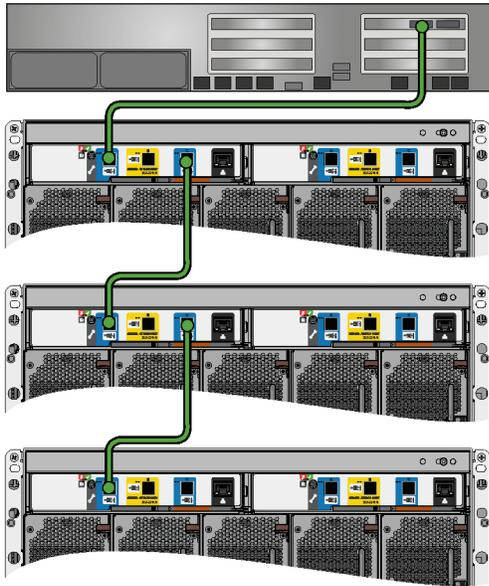
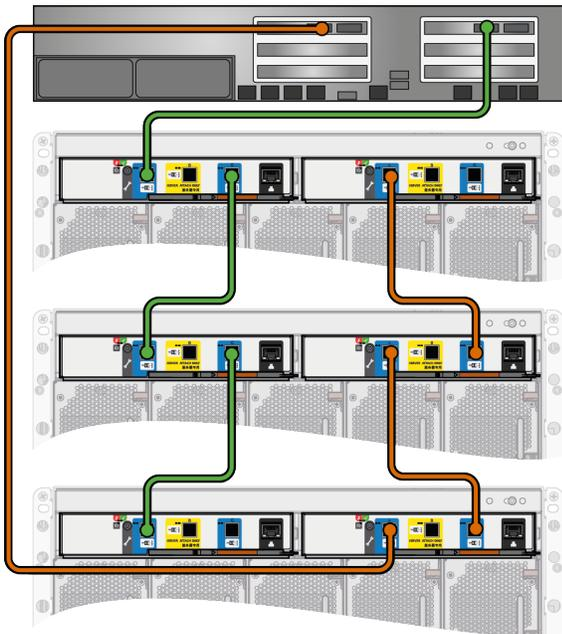
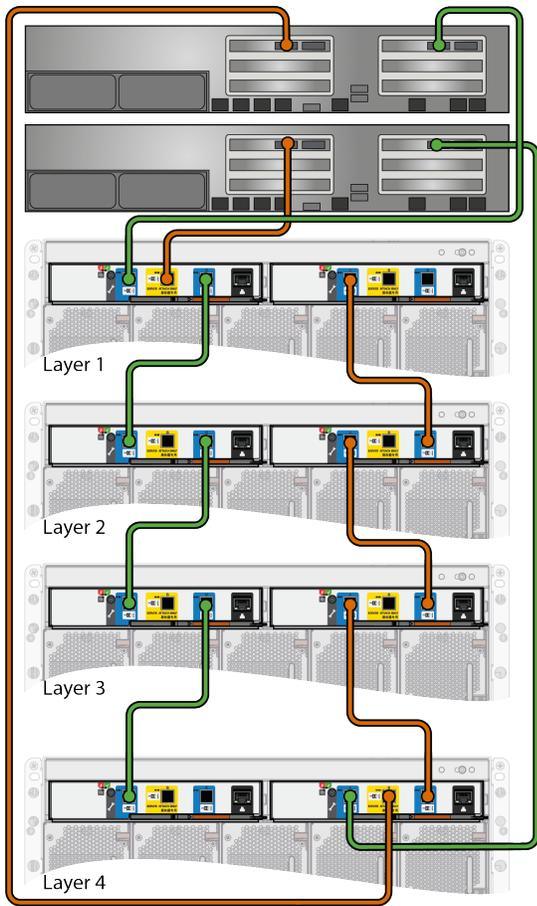

Figure 48. Single host with one host adapter- Multiple 5U Enclosures
Figure 49. Single host with two host adapters- Multiple 5U Enclosures
Figure 50. Dual Host – Multiple 12G 5U Enclosures
- Set up enclosures by reverse cabling. For more information, refer to Figure 49 “Single host with two host adapters- Multiple 5U Enclosures” on page 45.
- One host can access the drives in the JBOD ESMs at any time. See Figure 48 “Single host with one host adapter- Multiple 5U Enclosures” on page 45 and Figure 49 “Single host with two host adapters- Multiple 5U Enclosures” on page 45.
- One or more non-RAID adapter (HBA) in the host can access the drives in the JBOD ESMs. Clustering is supported in this condition. See Figure 49 “Single host with two host adapters- Multiple 5U Enclosures” on page 45 and Figure 50 “Dual Host – Multiple 12G 5U Enclosures” on page 46.